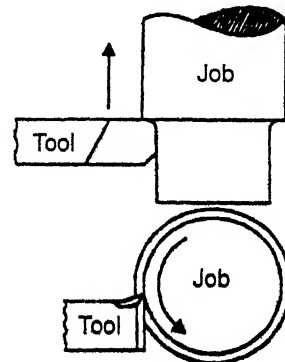

Fig. 10.9. Working principle of a lathe.
- Fig. 10.9 shows the *working principle of a lathe*. In a lathe, the workpiece is held in a chuck or between centres and rotated about its axis at a uniform speed. The cutting tool held in tool post is fed into the workpiece for desired depth and in desired direction (*i.e.*, in linear, transverse or lateral direction). Since there exists a relative motion between the workpiece and the cutting tool, therefore the material is removed in the form of chips and the desired shape is obtained.